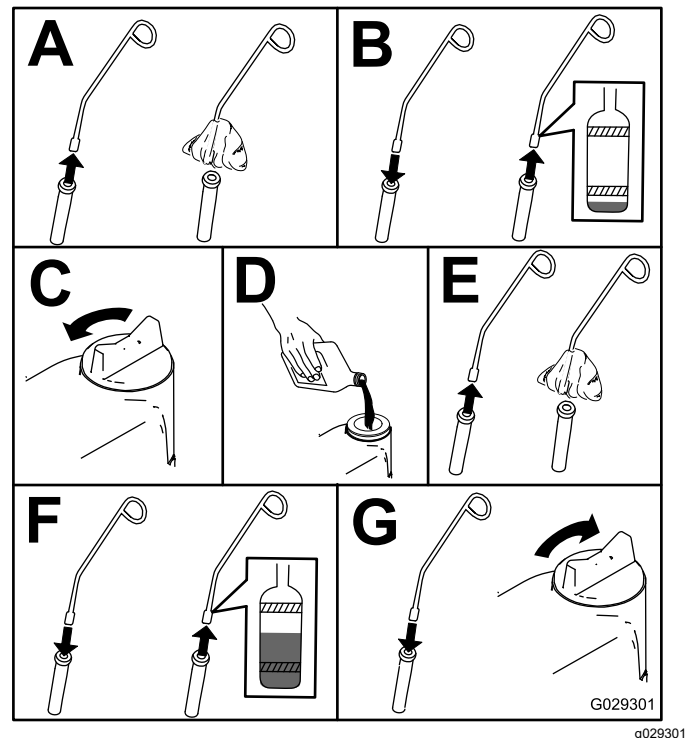

Figure 42
3. Check the engine-oil level as shown in Figure 42.